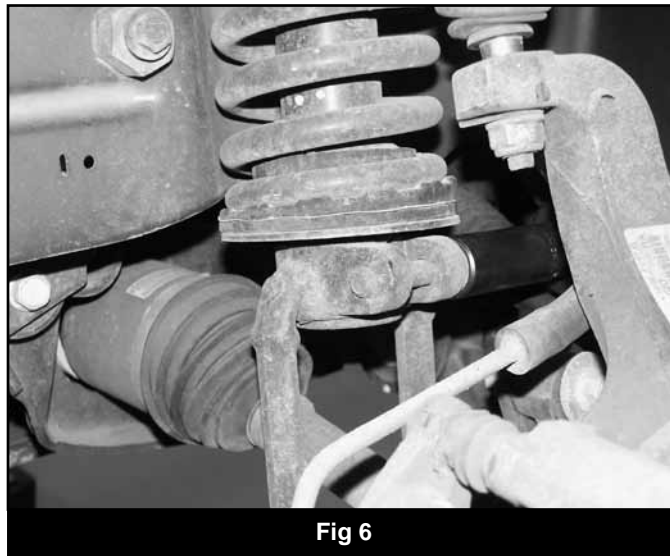

Fig 6
15. Remove the strut fork-to-strut pinch bolt (Fig 6).